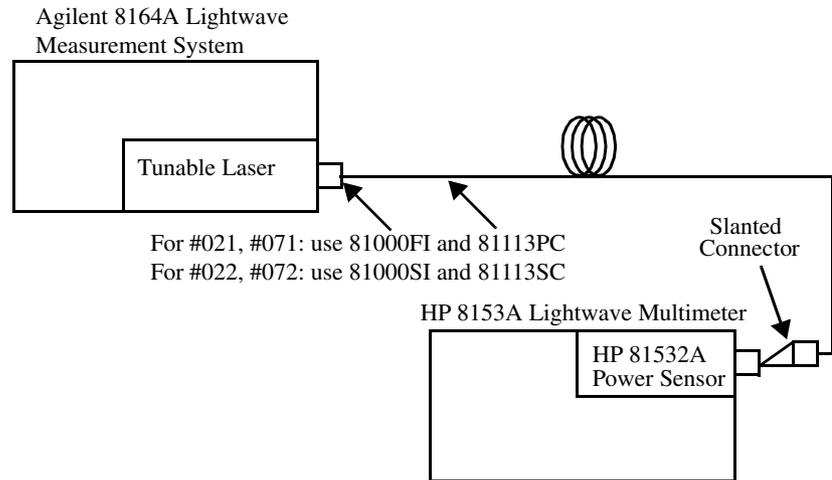

Figure 20 Test Setup for Low Power Linearity Tests
- 1 Set up the equipment as shown in Figure 20.
- 1** Set up the equipment as shown in Figure 20.